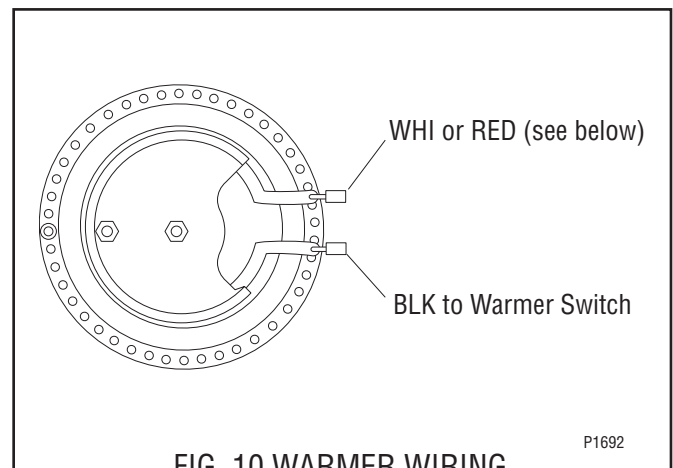

FIG. 10 WARMER WIRING
4. Refer to FIG. 10 when reconnecting the wires.